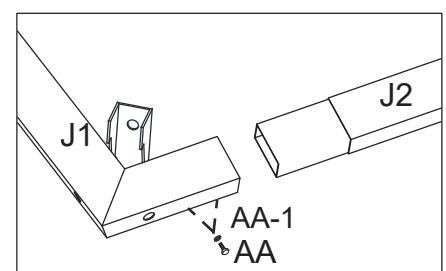

Figure 6-1
6.1.Connect the Top Frame (J1) and Top connecting Tube(J2) with Bolts (AA) and Steel washer (AA-1). See Figure 6-1.